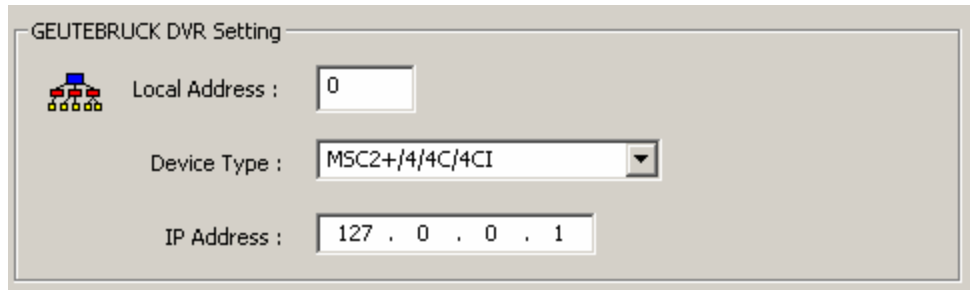

Fig 6 MultiScope DVR settings
2. Select the model and variant of the DVR (see Fig 6).
3. Fill in the address fields (see Fig 6):